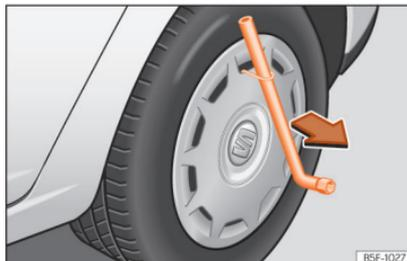

Fig.74 Remove the wheel cover.
- Remove the wheel cover using the wire hook » **Fig.74**.